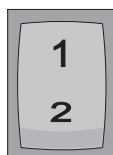

Figure 2
To adjust the fuel quantity accordingly at higher altitudes, a second pump (Figure 1-4) is installed parallel to the standard pump. This has a smaller delivery volume. It is possible to switch between the two pumps via a changeover switch (Figure 2) inside the vehicle.
► Set the switch (Figure 2) to position 1.
► Set the switch (Figure 2) to position 2.